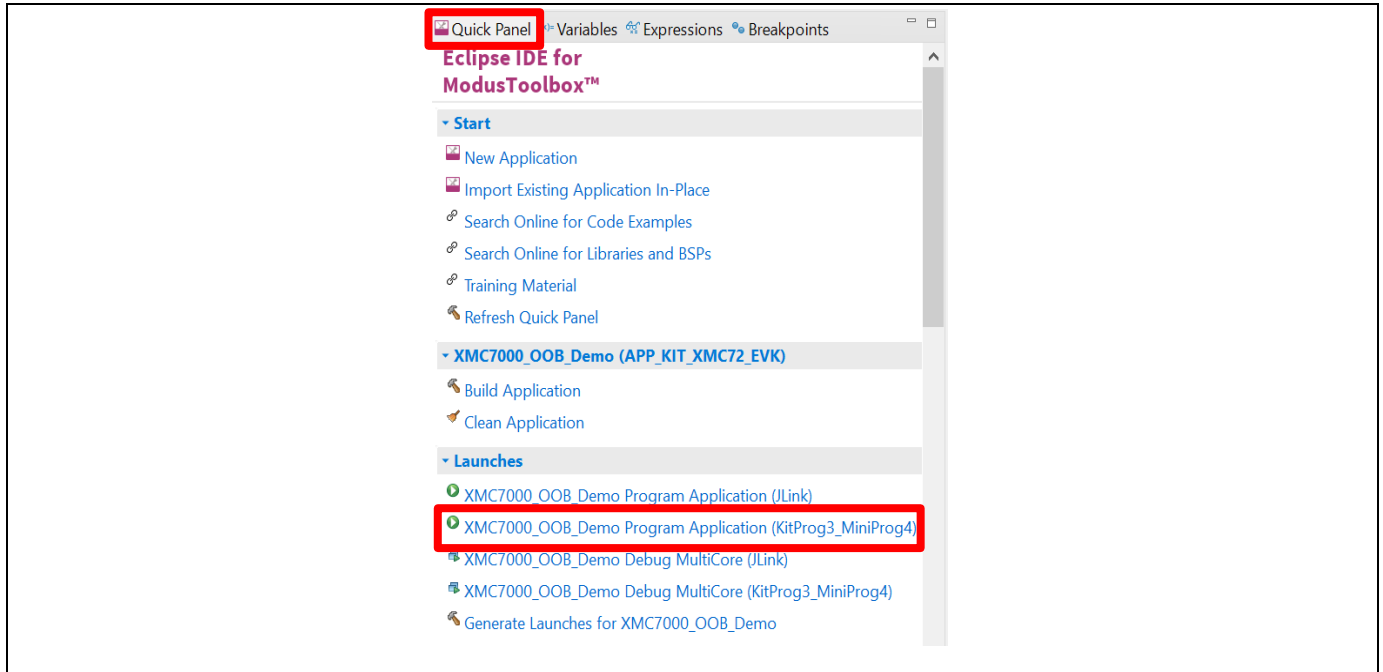

Figure 12 Programming in the ModusToolbox™ software
4. To build and program a XMC7200D application, in the Project Explorer, select **<App_Name>** project. In the Quick Panel, scroll to the Launches section and click the **<App_Name> Program (KitProg3_MiniProg4)** configuration as shown in **Figure 12**.